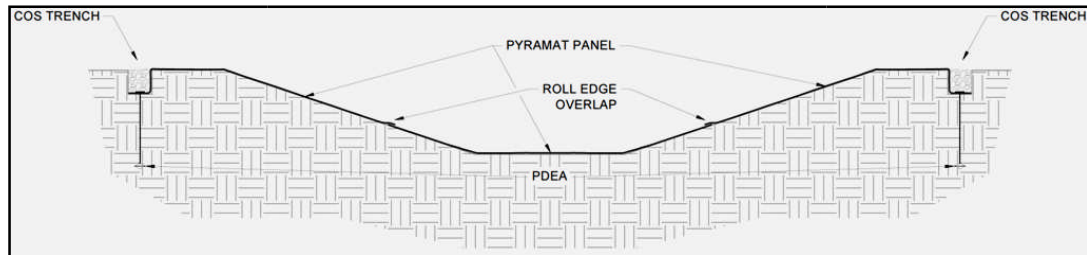

Figure 26: Crest of Slope (COS) Placement
14. Continue to work along the width of the channel by repeating steps 11 through 13 overlapping each adjacent Pyramat panel edge by 3 inches (75 mm) (Figure 26). The Pyramat panels placed on the crest of the side slopes should terminate their edges in the COS trench with pins on 12 in (300 mm) centers in between PDEAs on 5 ft (1.5 m) centers.
15. Place the final Pyramat panel edges in the COS trench, ensuring full coverage along the bottom of the entire COS trench with the Pyramat (Figure 26).
16. Secure Pyramat with pins and PDEAs in the COS trench. Suggested placement of pins and PDEAs for the COS trench is along the bottom of the trench with pins on 12 in (300 mm) centers in between PDEAs on 5 ft (1.5 m) centers (Figure 26).
17. Backfill and compact the COS trench (Figure 26).